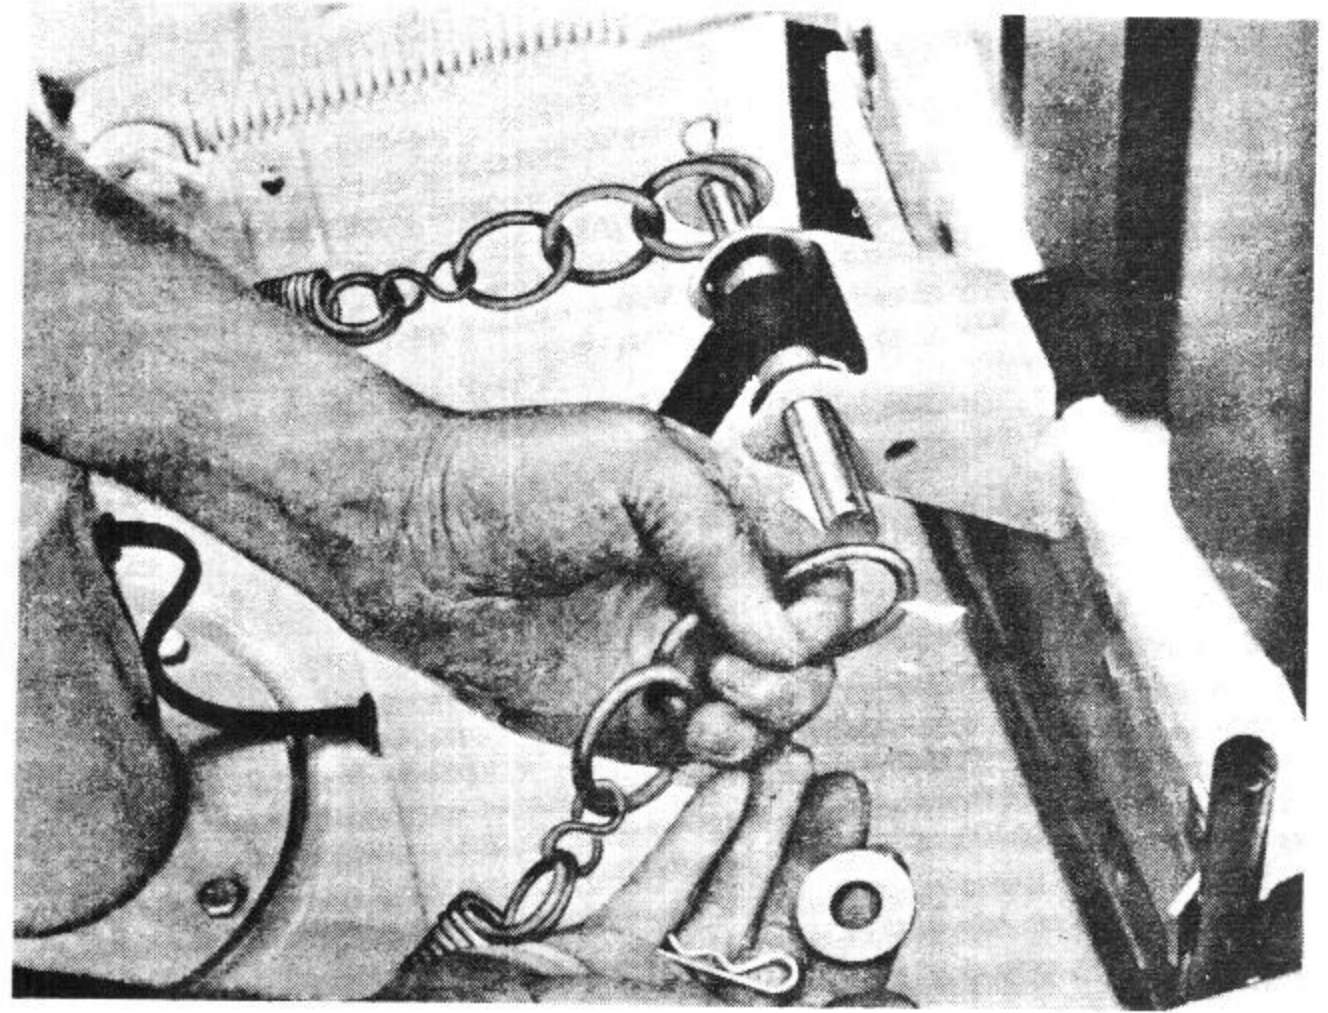

Figure 11
4. Lift the mower to its raised position and attach mower "helper" springs to either side of the front lift-guide axle using similar links on each chain extension. Secure with washers and hair pin cotters (See Figure 11). For normal conditions, the upper or center links should be used. If side hills are to be mowed, best results may be obtained using the lower links. This applies more of the mower weight to the front tractor wheels and permits better steering control.